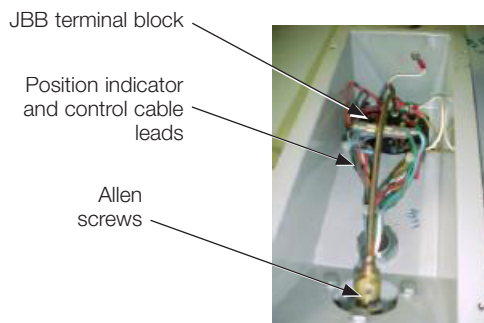

Figure 2.
2. Using an Allen wrench, remove the external flex shaft from the output shaft of the position indicator. Refer to Figure 2.
3. Using a standard screwdriver, remove all control cable and position indicator lead connections from the round terminal block JBB located in the back of the junction box. Refer to Figure 2.
4. Using a pair of needle-nose pliers, disconnect the position indicator and control cable, green/black leads, from the male terminal with insulation sleeve. Refer to Figure 2.
6. Using a pair of diagonal cutters, cut the tie fasteners and separate the position indicator and control cable leads. Refer to Figure 2.